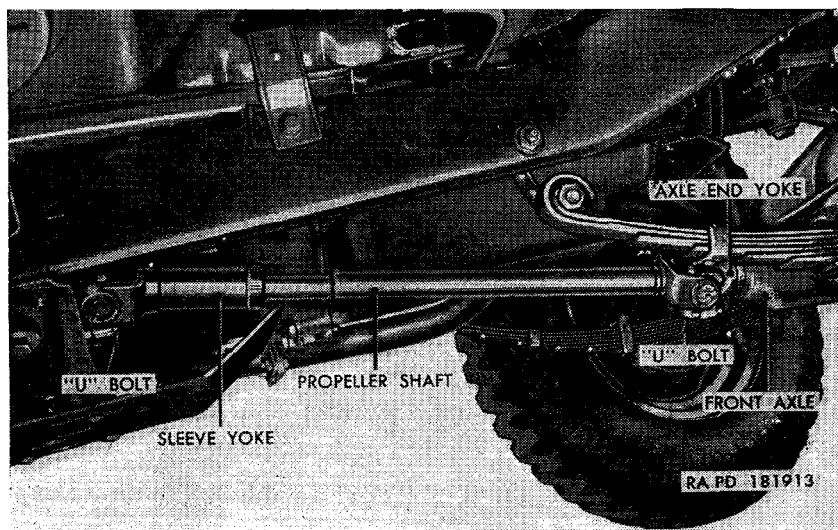
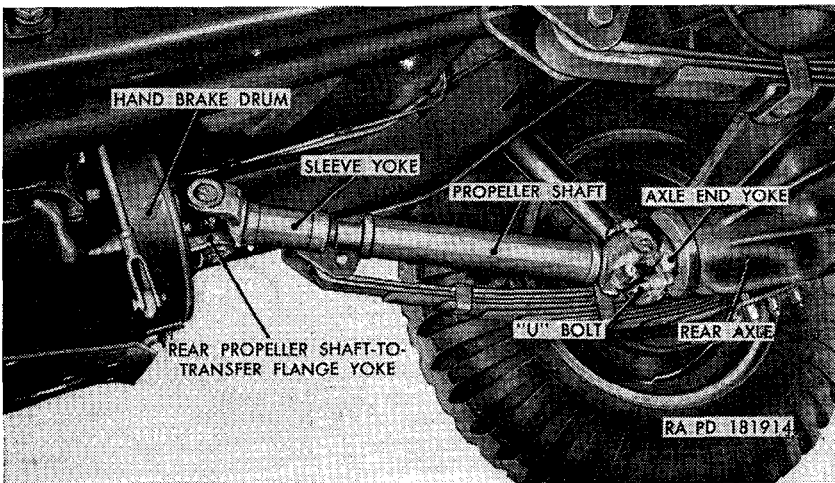
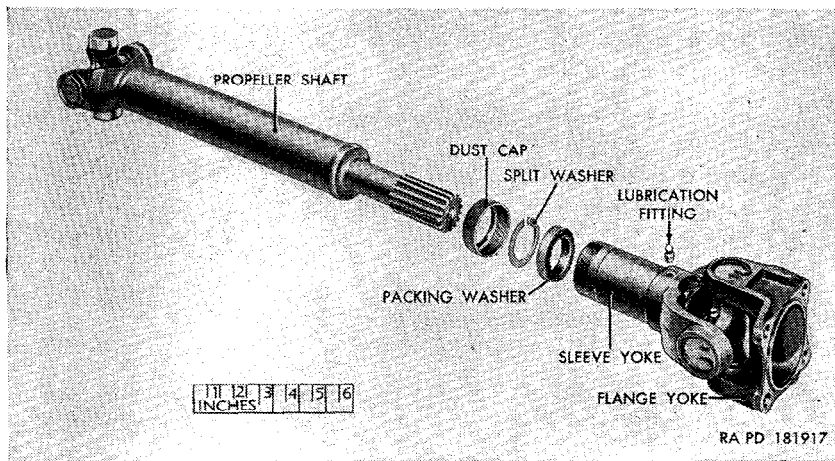

Figure 129. Front propeller shaft with universal joint assembly—installed.
Figure 130. Rear propeller shaft with universal joints—installed.
Figure 133. Rear propeller shaft with universal joints—partially exploded view.
a. *Description.* The front propeller shaft (fig. 129) with universal joints transmits power from the transfer to the front axle. The rear propeller shaft (fig. 130) with universal joints transmits power from the transfer to the rear axle. Each assembly includes a propeller shaft, a universal joint sleeve yoke, and two universal joints. Corresponding parts of the front and rear assemblies are similar except for the length of the shaft, and the front universal joints of the rear propeller shaft. This universal joint includes the propeller shaft flange yoke, and is modified accordingly.
(fig. 129)
(fig. 130)
a. General. The universal joint sleeve yoke assemblies (figs. 129 and 130) used on the front and rear propeller shafts are practically identical. Removal and installation procedures for both are referenced to figure 133.
b. Universal Joint Sleeve Yoke Removed (fig. 133).
- (1) Remove the propeller shaft with universal joints (par. 202*a* or 203*a*).
- (2) Unscrew the dust cap from the sleeve yoke and slide the yoke with universal joint off the splined shaft. Remove the packing washer and the split washer from the dust cap. Work the two washers and cap off the shaft over the splines. Unscrew and remove the lubrication fitting.
- (3) Follow the procedure described in paragraph 204*a*(3).
c. Universal Joint Sleeve Yoke Installation (fig. 133).
- (1) Follow the procedure described in paragraph 204*b*(1) and (2).
- (2) Slide universal joint sleeve yoke dust cap over splines on the propeller shaft, convex side first. Slide universal joint sleeve yoke dust cap split washer over splines, and install in dust cap. Slide universal joint sleeve yoke dust cap packing washer over splines and install in cap. Slide the universal joint sleeve yoke with universal joint assembly onto the propeller shaft splined end. Screw the universal joint sleeve yoke dust cap, with the two washers inclosed, onto the yoke end. Insert the lubrication fitting into the yoke hole and tighten the fitting.
- (3) Install the propeller shaft with universal joints (par 202*b* or 203*b*).